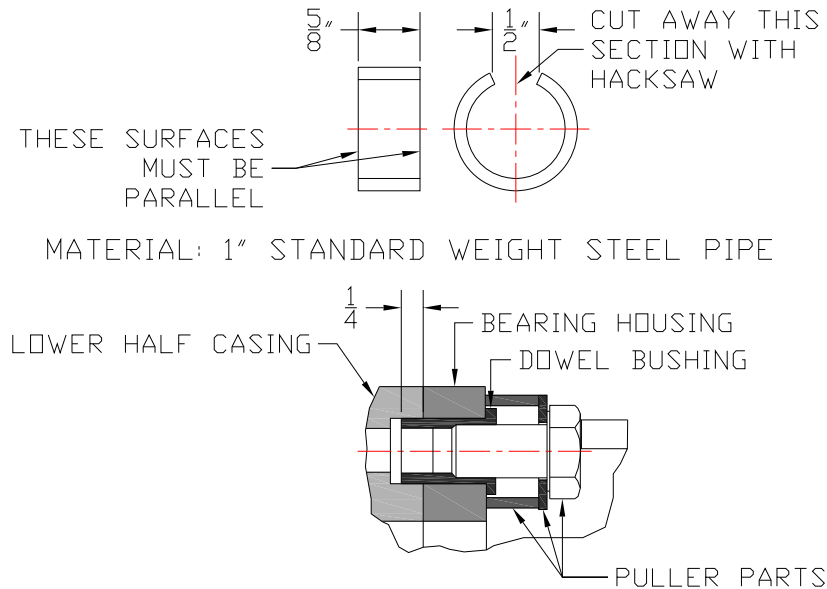

Fig 5.
7. Remove packing glands (17), if packed. If mechanical seal equipped, slide seals (65) towards the bearing housings.
8. With a suitable punch, drive out the two straight roll pins (55) which are used to align upper and lower half casings. (See Figure 5)
11. Remove bearing housing screws (54).